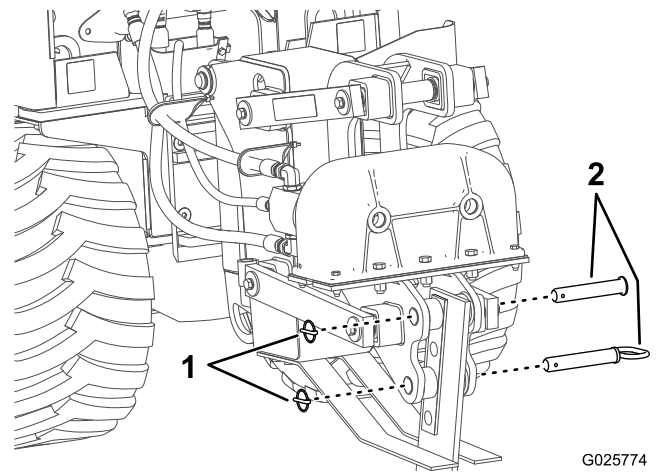

Figure 11
2. Flip the 2 circular snap rings over and remove the snap-ring pin (Figure 11).